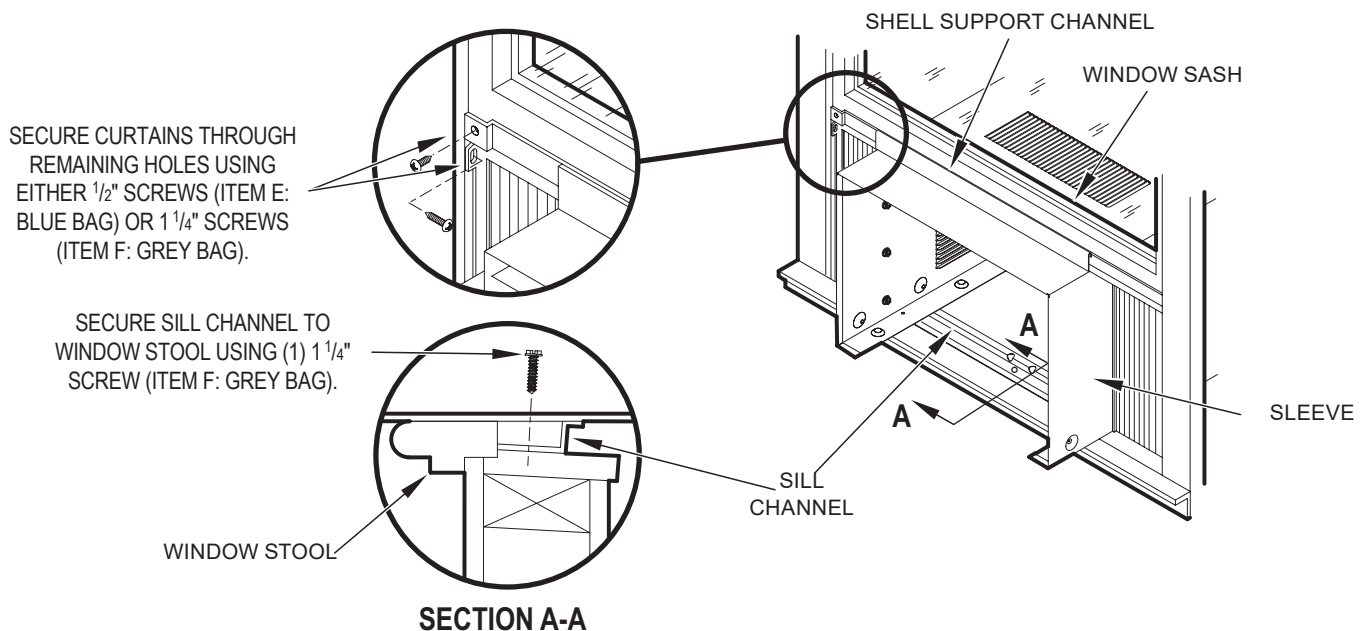

Figure C.4.5
STEP 6 Extend side curtains to fill window. Secure outer top corner of each curtain (left and right) to window jamb and/or window sash using supplied screws. Two sizes of screws (E and F in parts list) and 2 different screw hole locations have been provided to accommodate varying window types (See Figure C.4.5).
STEP 7 Secure sleeve to window stool through screw hole in the bottom center of sill channel using 1 supplied 1 1/4" screw (F in parts list) (see Fig. C.4.5 Detail A).
In Step 6, the window curtains were secured using 1 supplied screw per curtain (2 screws total). For a more permanent application, you may secure each curtain with an additional screw through the remaining screw hole, insuring each window curtain is secured to window jamb and sash with 2 screws each (4 screws total). Two sizes of screws (E and F in parts list) have been provided to accommodate varying window types (see Figure C.4.5).